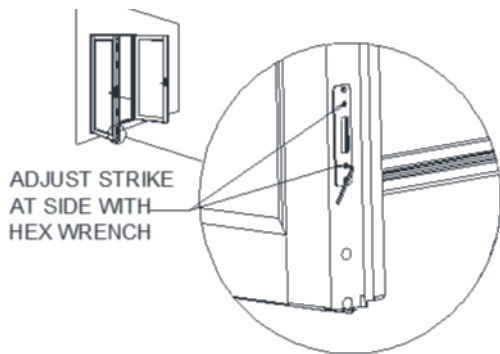

Figure 13
28. Use a 1/8" hex wrench (not included) to perform the following adjustments. If a single door, adjust strike plates on the frame jambs. **If a double door**, open door and adjust the strike plates on the side of the inactive panel (Figure 13). Make adjustments until the Rhino hooks function correctly.